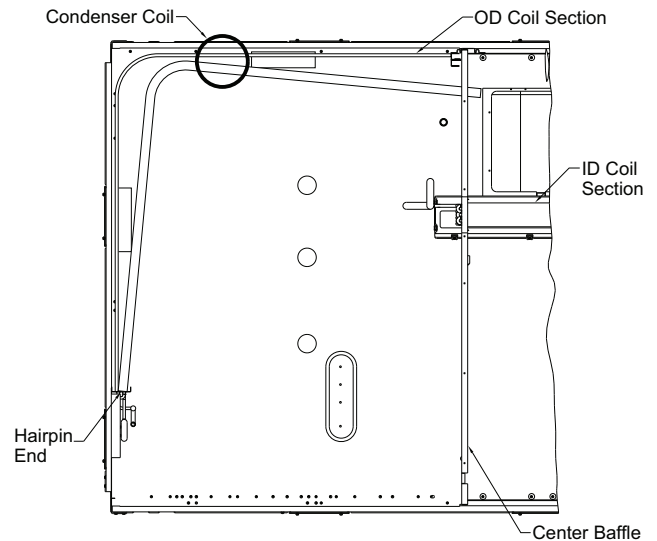

Fig. 18 — Separating Coil Sections (Top View)
8. Insert a spacer (field-supplied) between the tube sheets to hold the coils apart. (See Fig. 18.)